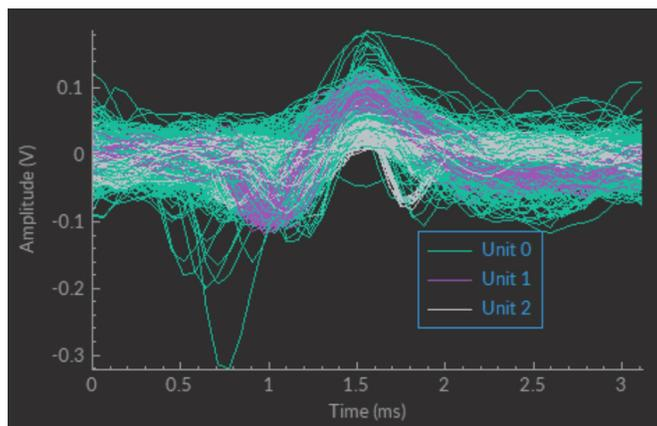

Figure 3.39: Waveform box
2. The **Waveform box** (Fig. 3.39) shows a superimposed view of all different spike waveforms recovered. Each different color corresponds to a different unit, as shown on the legend.